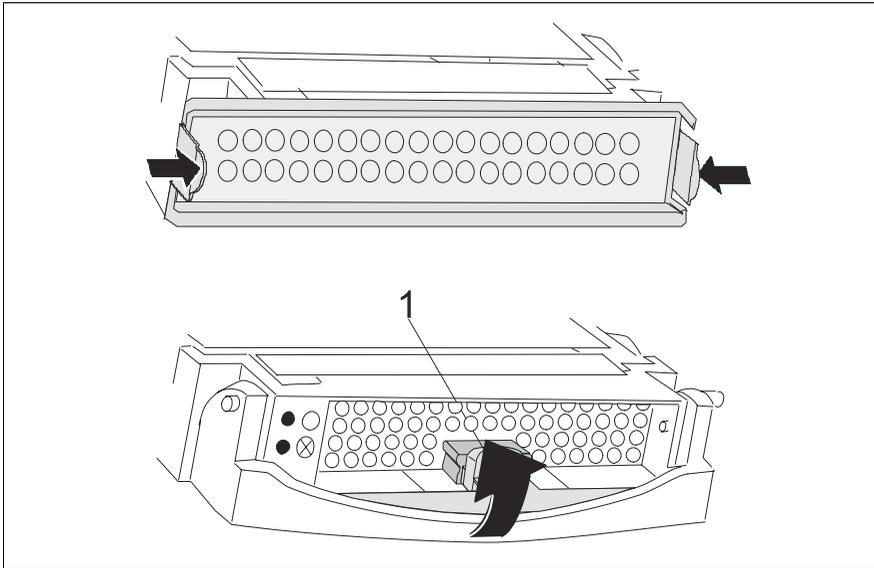

Figure 32: Dummy module and corresponding HDD module
- ▶ Press the upper and lower tabs on the dummy module together (see figure 32 on page 78) until the locking mechanism disengages, and remove the dummy module from the slot.